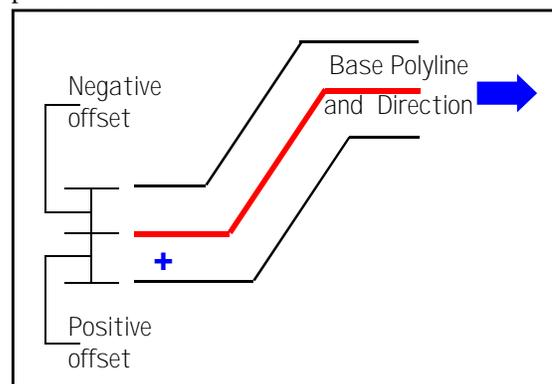

Figure 7
- D. If the *All of the Polyline* option is selected, a small blue cross denoting the positive offset direction is displayed slightly offset from the base polyline, and near the pick of the base line selection, (see Figure 7). Note that the setting